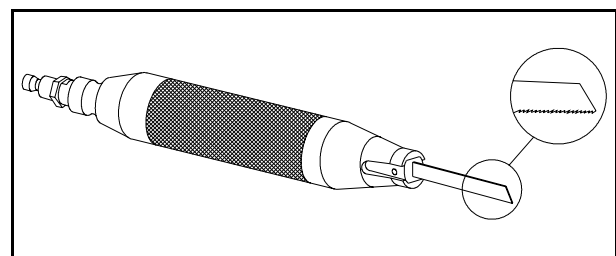

Fig 3.5 Air File Saw (Model AF8)
- Model AF8 (see Fig 3.5); and